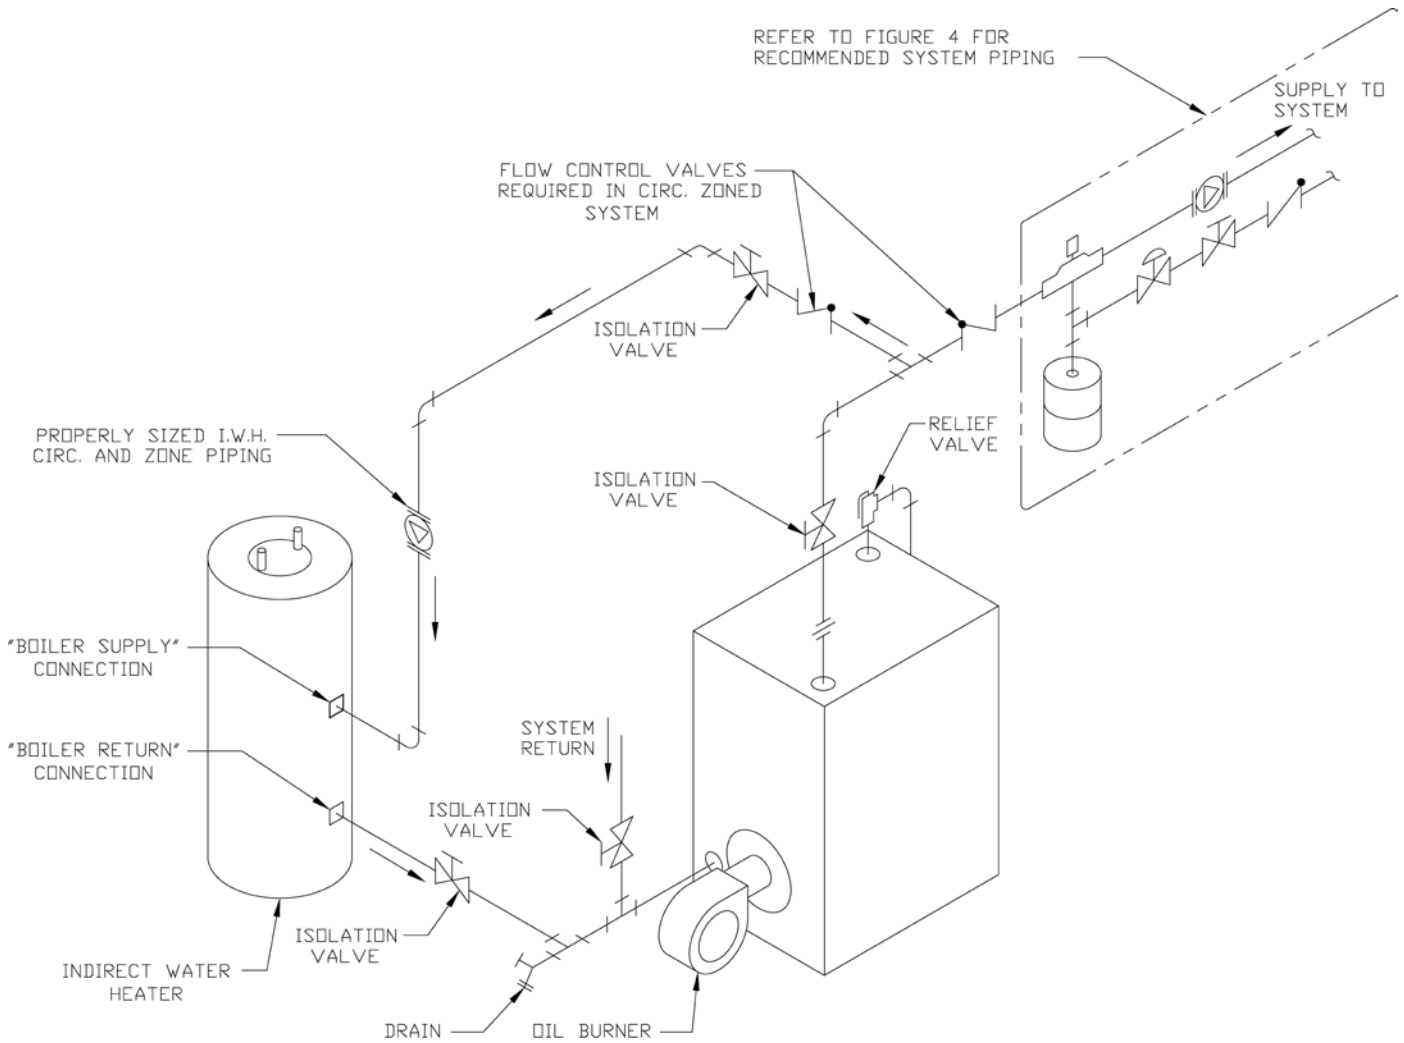

Figure 13: Indirect Water Heater Piping on RRO Series Water Boiler
A. CONNECT Indirect Water Heater Piping as shown in Figure 13. Refer to Indirect Water Heater Instruction Manual for additional installation information.
RRO Series Water Boiler - Figure 13 shows indirect water heater piping on typical hot water heating system. Boiler piping is the same as for any two-zone system. Figure 13 shows circulator zoning, which is usually preferred for indirect water heaters. Size the circulator and indirect water heater piping to obtain the boiler water flow through the indirect water heater called for by the indirect water heater manufacturer. Refer to the indirect water heater instruction manual for additional details.